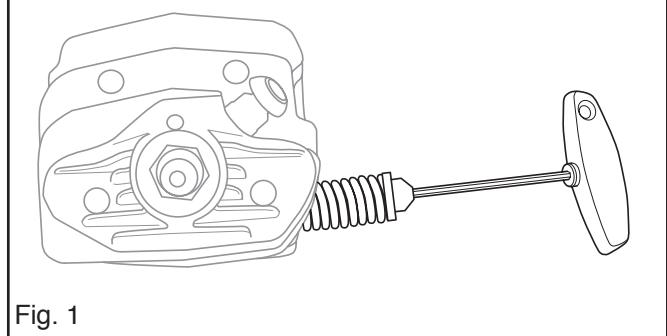
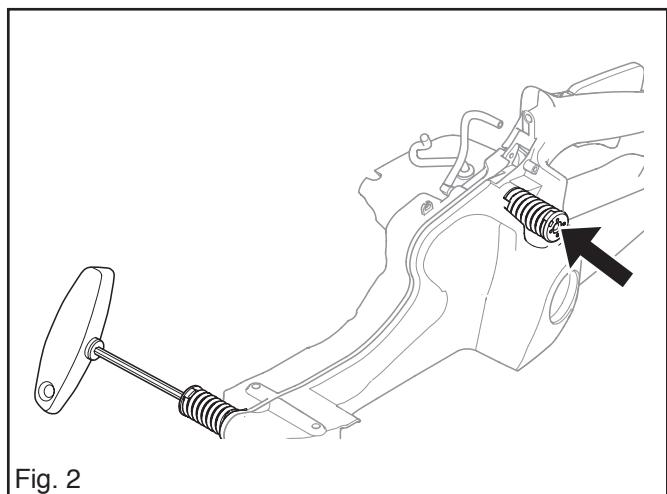

Fig. 1
Fig. 2
2. Remove the spring on the cylinder with a 4 mm Allen key. See fig. 1.
3. Remove the springs on the tank unit with a 4 mm Allen key. See fig. 2.
1. Fit the springs on the cylinder and tank with a 4 mm Allen key. See fig. 1 and fig. 2.
5. Cover the crankcase opening immediately with a sheet of paper or a cloth. See fig. 2.
6. Remove one of the piston's circlips, press out the gudgeon pin, and remove the piston. See fig. 2.